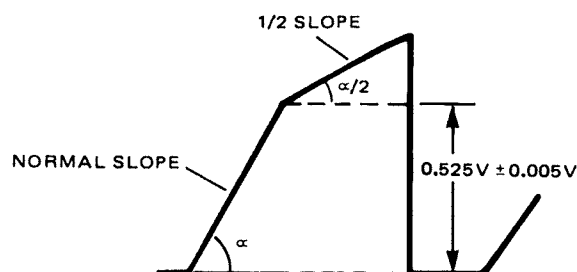

Figure 5-25. G Knee and Slope Adjustment
STEP 2 Connect the scope probe to TP302 and adjust R334 (G KNEE) and R337 (G SLOPE) to obtain the following shape ($0.525V \pm 0.005V$ corresponds to 105 IRE in ENCR output). (Figure 5-25)